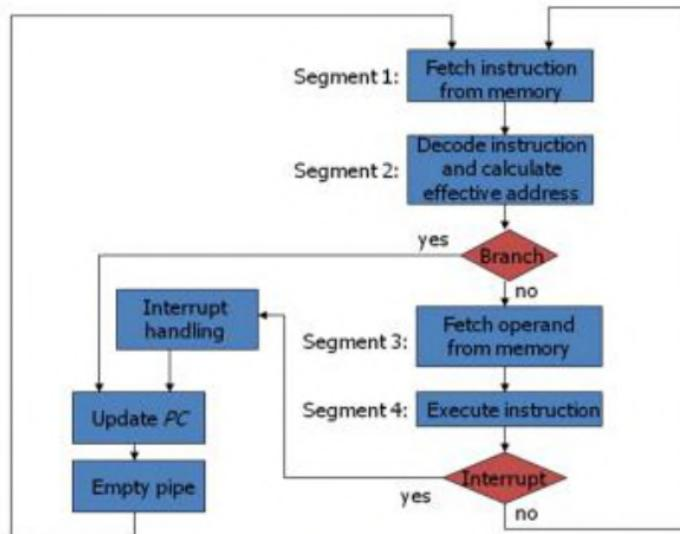

Fig 4-7: Four-segment CPU pipeline
- Fig 4-7 shows how the instruction cycle in the CPU can be processed with a four-segment pipeline.